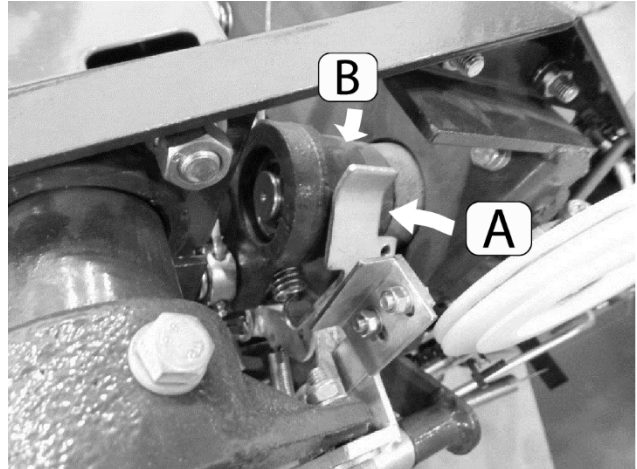

Figure 32 Right side of baler
1. There is a release lever (Figure 32, A) on the outside of the pivot box (B). Press the lever outward, toward the outside of the baler, to release the twine arm.